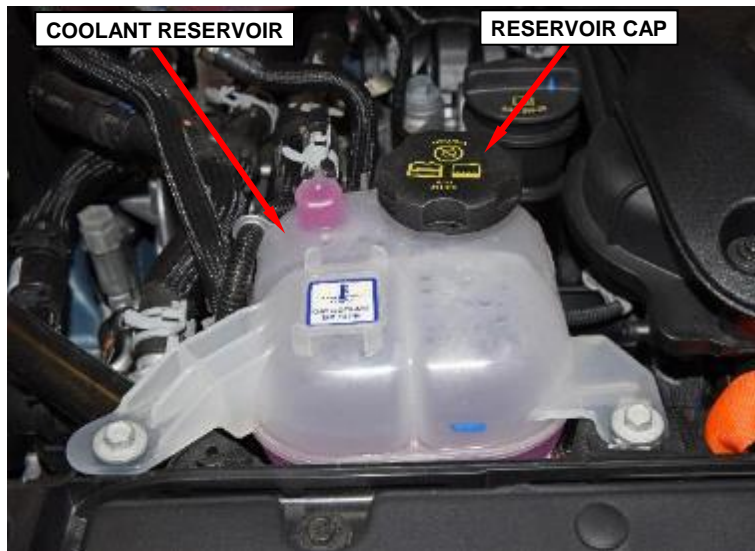

Figure 43 – Power Electronics Coolant Reservoir
NOTE: The following wiTECH screen image is an example of a newly installed PIM with bootloader software causing the Auxiliary Hybrid Control Processor (AHCP) to display solid red (Figure 43). It is normal for a blank PIM with generic Bootloader software to cause the AHCP to display solid red. This indicates that the PIM is not communicating on the Controller Area Network (CAN) bus. There is nothing wrong with this PIM, therefore continue with the software flash procedure.
63. Add Mopar® 68163849AB engine coolant to the power electronics cooling system pressurized coolant reservoir through the filler neck until the coolant level reaches the MAX level of the coolant reservoir (Figure 43).